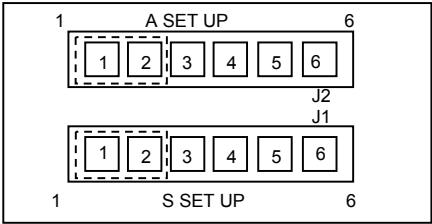

Figure 23
12. Position the jumpers on pins **1** and **2** of the **J1 (S SET UP)** and **J2 (A SET UP) headers**. *(Refer to Figure 23)*